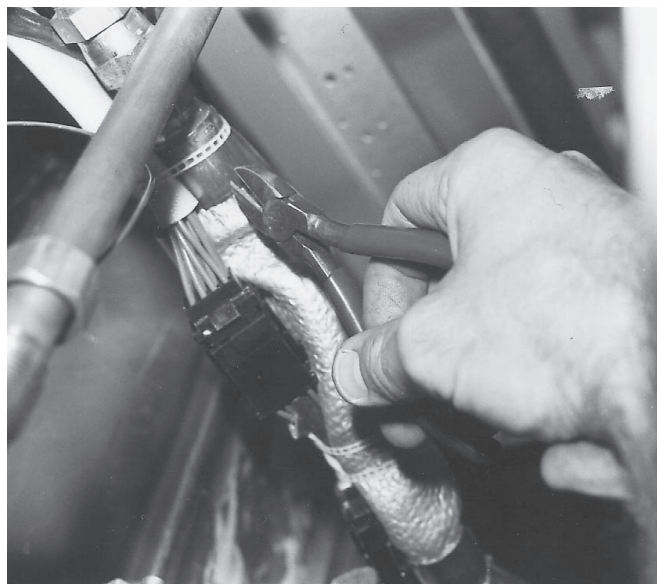

Fig. 74
12. If fryer is inter plumb equipped cut the wire ties holding the oil refill lines together. (Fig. 74)